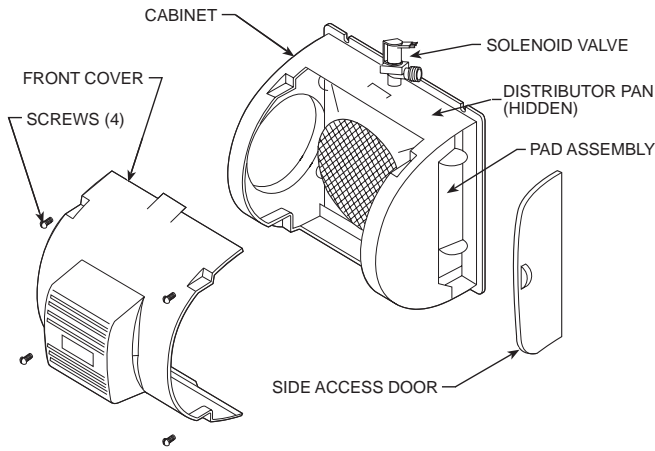

Fig. 8 — Humidifier Details — P110-SFP1016A
- On a P110-SFP1016A humidifier, open the side door or the front cover. If the front cover is opened, hold the pad assembly in place. Check to see if water is flowing from the solenoid valve into the distributor pan. (See Fig. 8.)
- To disassemble a P110-SFP1016A humidifier, the pad assembly can be removed from the side access door or the front cover. When removing the side door, lift the pad assembly up by holding the tabs and slide the assembly out. When removing the front cover, disconnect the quick connects to the solenoid valve, unscrew the 4 screws to the front cover, snap loose the top and bottom catches, and lay the front cover aside. Once the front cover is off, lift the pad assembly up and twist it out. The pad assembly consists of 4 parts; the distributor pan, frame, sump, and the evaporator pad. Pull the distributor pan apart from the frame and the evaporator pad can be removed. Do not force the evaporator pad in or out without removing the distributor pan as this will distort the pad. See Fig. 8.